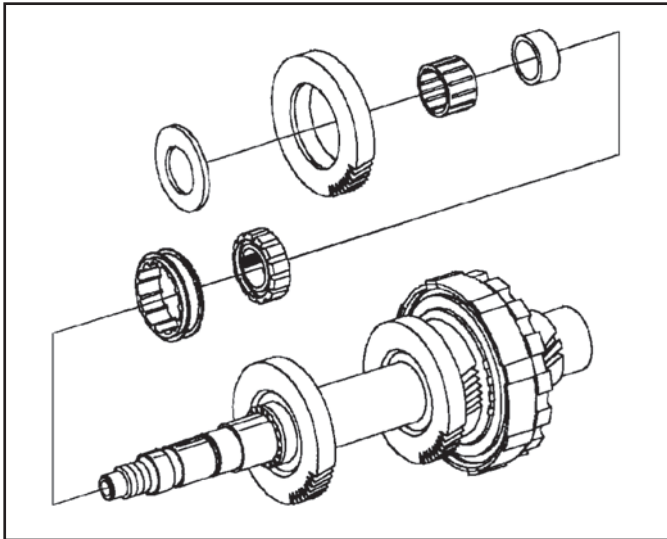

Figure 89
1. Remove and inspect the reverse driven gear thrust washer for wear or scoring and replace if necessary (See Figure 89).
2. Remove the reverse driven gear and inspect the teeth and needle bearing race for wear, chipping or pitting and replace if necessary (See Figure 89).
3. Remove the caged needle bearing and inner race and check both items for wear (See Figure 89).